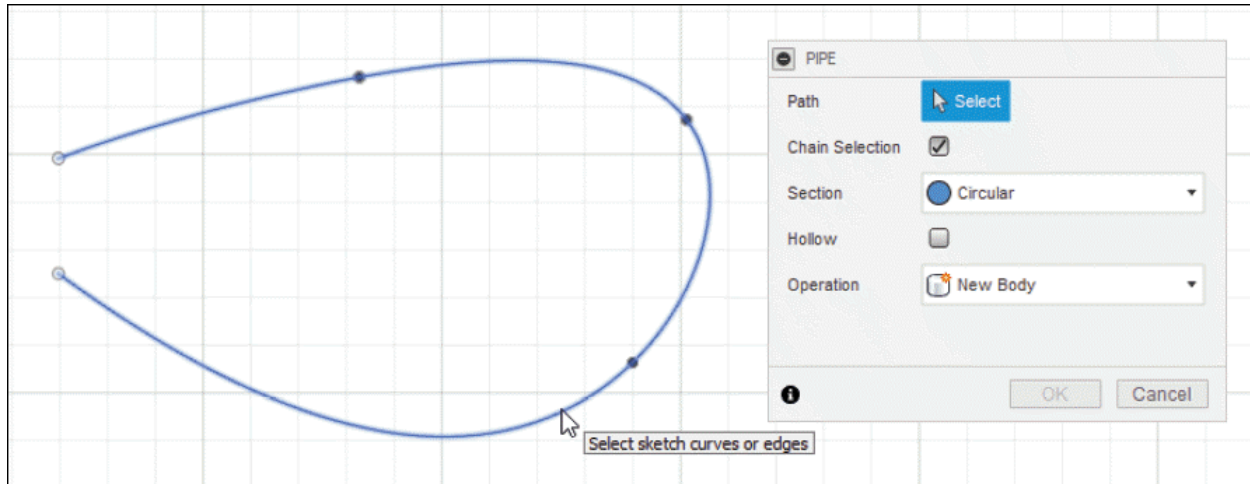

Figure-83. Selection of path to create pipe
- Select the sketch or edge of a model for path of the pipe; refer to Figure-83.